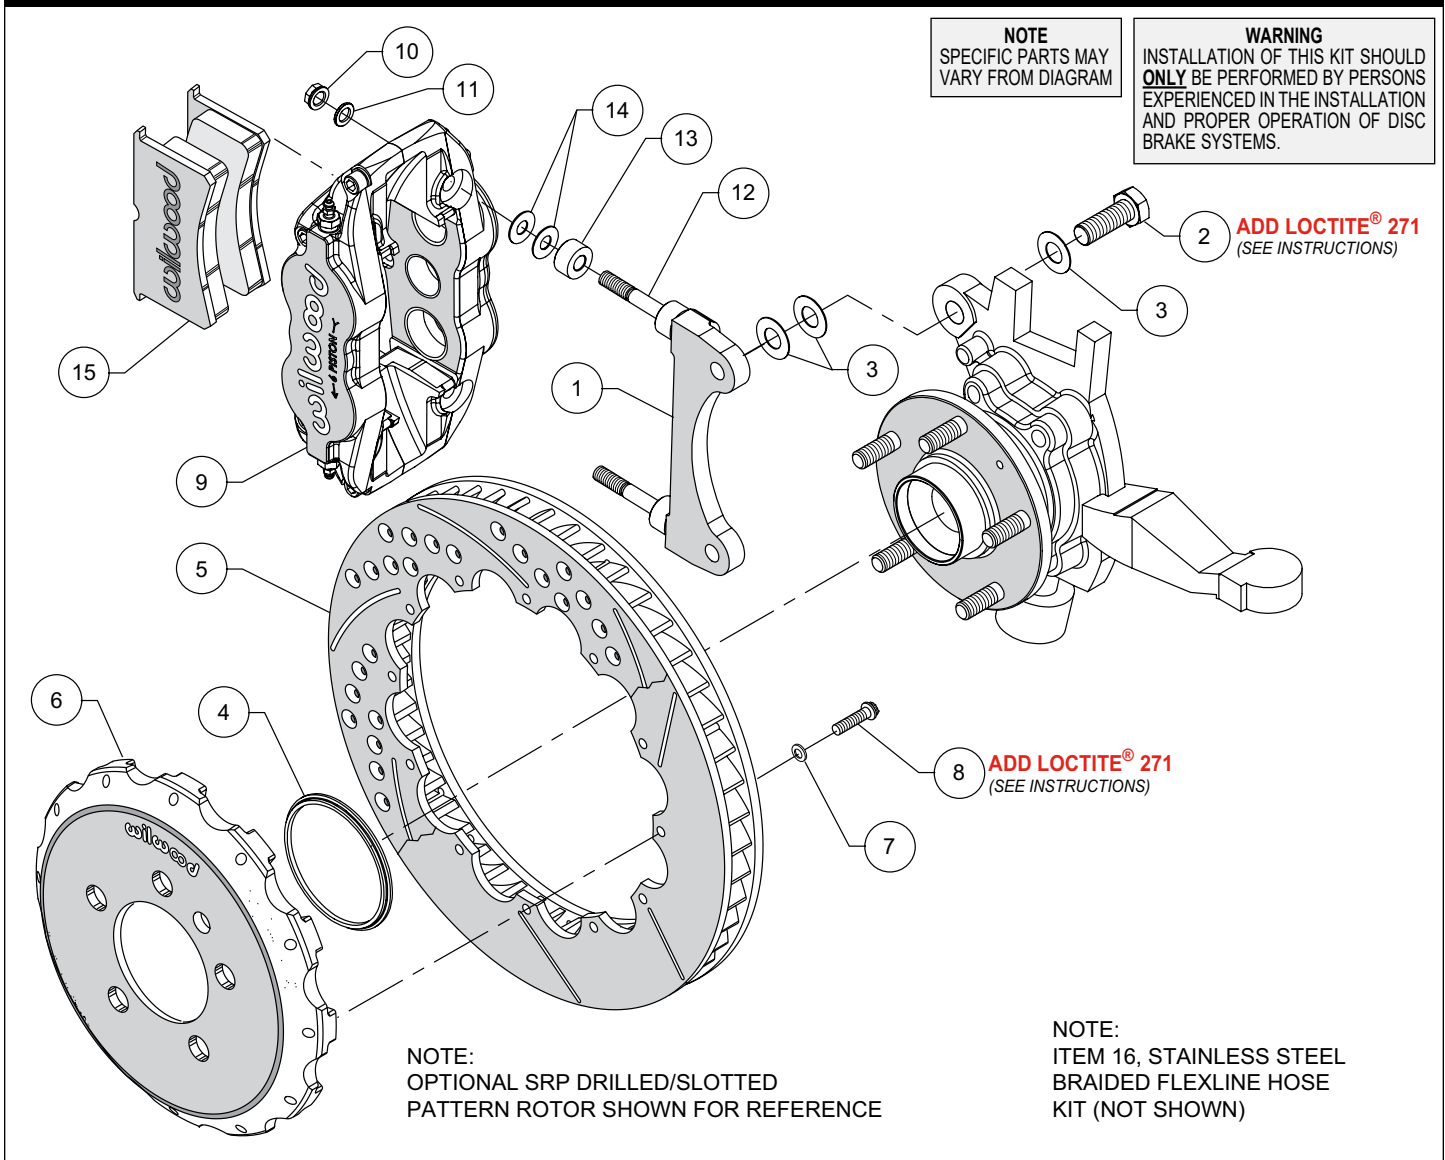
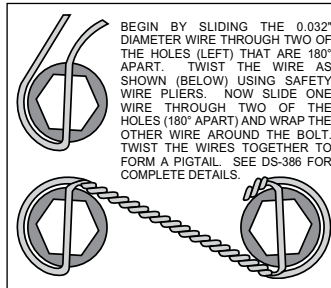

Figure 1. Typical Installation Configuration
Figure 3. Safety Wire Diagram
**Assembly Instructions** (numbers in parenthesis refer to the parts list and Figure 1 on the preceding pages):
- The caliper mount bracket (1) should initially be installed with clean, dry threads on the mounting bolts. Orient the bracket as shown in Figure 1 and Photo 1, and install using shim washers (3) and bolts (2). Initially place two shims (3) on each bolt between the bracket and upright, Figure 1. Temporarily tighten the mounting bolts. **NOTE: The bracket must fit squarely against the mount bosses on the upright.** Inspect for interference from casting irregularities, machining ridges, burrs, etc. Later, after the caliper alignment has been checked, the mount bolts will be secured using red *Loctite*® 271.
- Orient the rotor (5) and the hat (6) as shown in Figure 1 and Photo 2. Attach rotor to hat using bolts (8) and washers (7). Apply red *Loctite*® 271 to the bolt threads and torque to 155 in-lb using a criss-cross pattern. For an added measure of security, the bolts may be safety wired using standard 0.032 inch diameter stainless steel safety wire as shown in Figure 3. Please refer to Wilwood's data sheet DS-386 (available at [www.wilwood.com/Pdf/DataSheets/ds386.pdf](http://www.wilwood.com/Pdf/DataSheets/ds386.pdf)) for complete safety wire installation instructions.
- Slide the rotor registration adapter (4) onto the axle register on the axle hub with the smaller O.D. facing outward, Photo 3. Slide the hat/rotor assembly onto the axle hub. **NOTE: The hat must fit flush against the axle hub flange or excessive rotor run out may result.** Install three lug nuts (finger tight) to keep the hat/rotor assembly in place while continuing with the installation.
- NOTE: This kit contains distinct right and left hand calipers that must be mounted in a specific direction, as described below.** Initially place two .035" thick shims (14) and spacer (13) on each stud (12) as shown in Figure 1 and Photo 4. Mount the caliper (9) onto the bracket (1) using lock nuts (10) and washers (11), Figure 1. Ensure that the caliper is mounted so that the largest pistons are at the rotor exit end of the caliper, in relation to the direction of rotor rotation. Temporarily tighten the lock nuts and view the rotor through the top opening of the caliper. The rotor should be centered in the caliper, Photo 5. If not, adjust by adding or subtracting shims (3) between the bracket and the upright. Always use the same amount of shims on each of the two mounting bolts. Once the caliper alignment is correct, remove the bracket mounting bolts one at a time, apply red *Loctite*® 271 to the threads, and torque to 77 ft-lb.